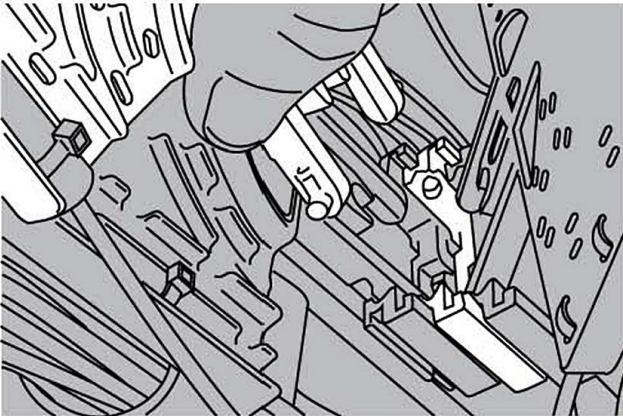

FIGURE 27
27. Any SLIDE-N-LOCK splice tray can be removed from the raised stack and positioned away from the splice for individual attention. (Figure 27)